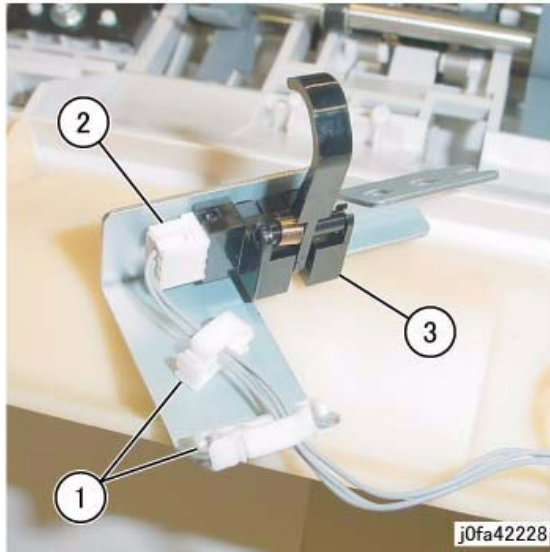

Figure 4 Removing the Compile Exit Sensor (j0fa42228)
7. Remove the Compile Exit Sensor. (Figure 4)